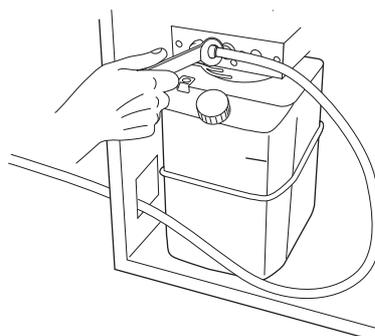

Figure 3.3 Connecting the hydraulic hose to the L-coupling
- 3 Tighten the L-coupling to the hose (see figure 3.3).**